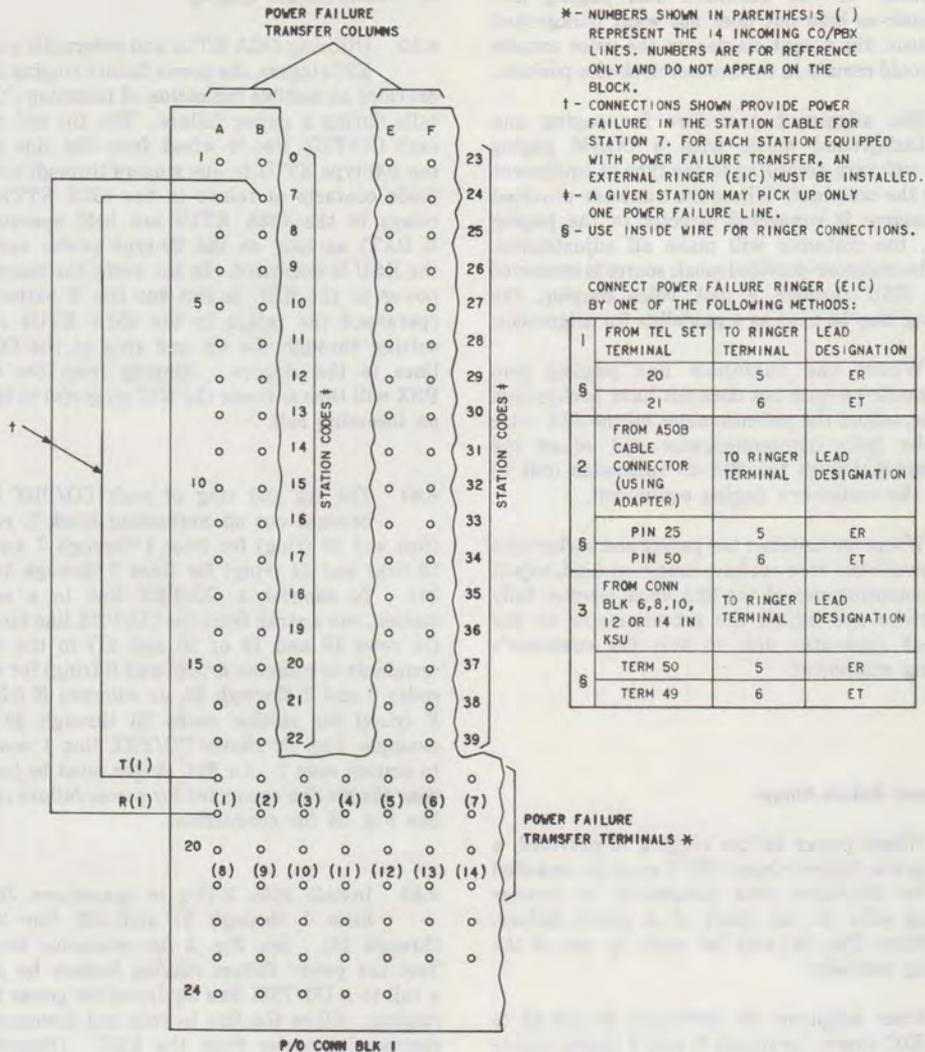

Fig. 34—Connections for Power Failure Ringing
4.59 Where power failure ringing is provided, a power failure ringer (E1C) must be installed near the telephone sets designated to answer incoming calls in the event of a power failure. Connections (Fig. 34) may be made by one of the following methods:
4.61 The tip and ring of each CO/PBX line is brought out on connecting block 1, rows 18 (tip) and 19 (ring) for lines 1 through 7 and rows 20 (tip) and 21 (ring) for lines 8 through 14 (Fig. 34). To connect a CO/PBX line to a selected station, run a strap from the CO/PBX line terminals (in rows 18 and 19 or 20 and 21) to the station terminals in columns A (tip) and B (ring) for station codes 0 and 7 through 22, or columns E (tip) and F (ring) for station codes 23 through 39. For example, Fig. 34 shows CO/PBX line 1 connected to station code 7. An E1C ringer must be installed near the station connected for power failure ringing. See Fig. 34 for connections.